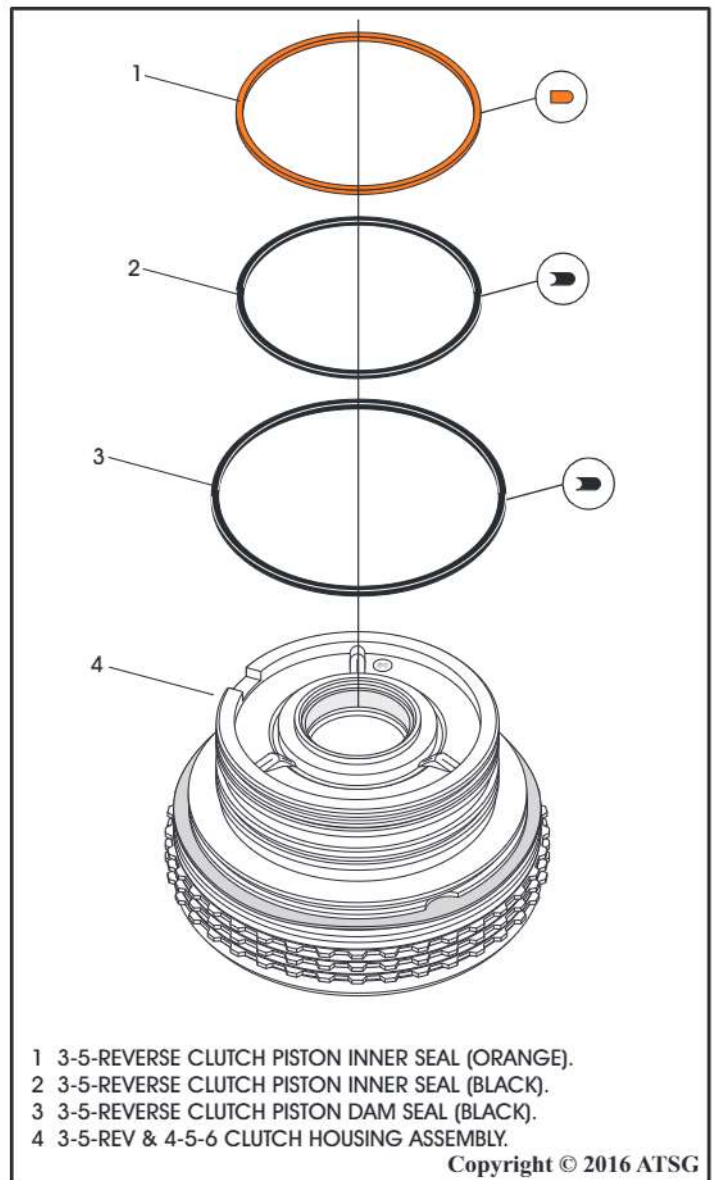

Figure 113
72. Install the 3-5-R clutch piston dam seal (Black), the 3-5-R clutch piston inner seal (Black) and the 3-5-R clutch piston reluctor inner seal (Orange) in the order shown in Figure 113.